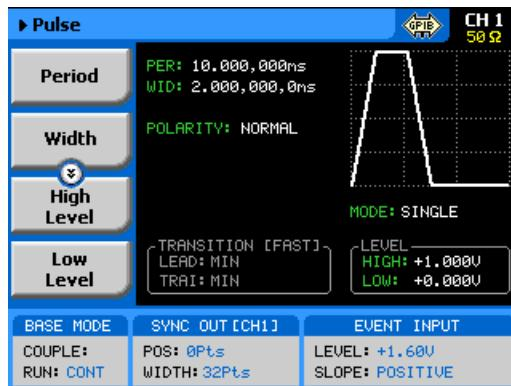

Figure 3-69, User-composed Pulse Patterns Menus
1. Push the Pulse button in the Function group keys. The pulse dialog box, as shown in Figure 3-69 will be displayed.